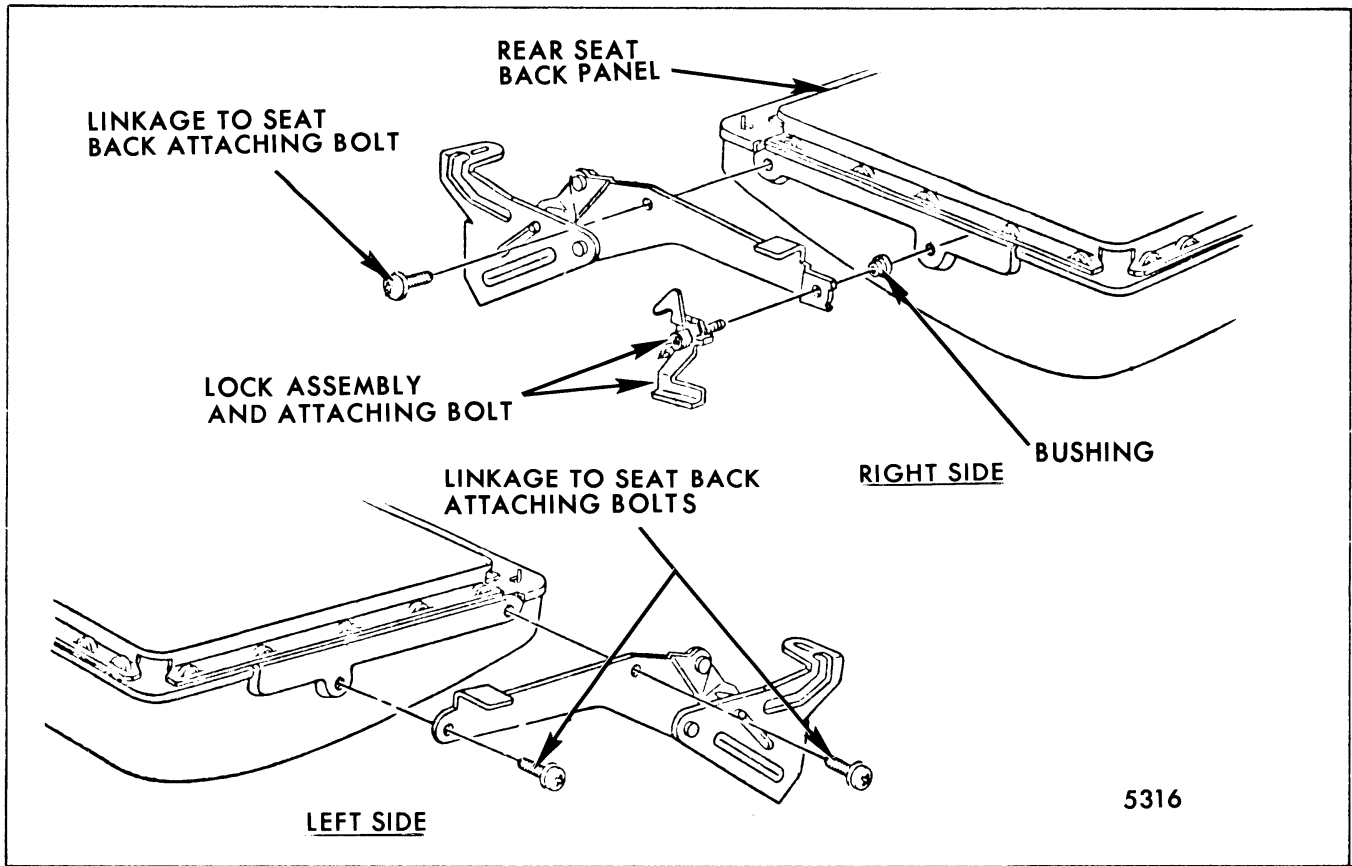

Fig. 9-70-Folding Rear Seat Back Hinge and Linkage
3. Remove linkage and lock assembly to seat back attaching screws (Fig. 9-70).
2. Remove seat back linkage to seat back frame and lock assembly attaching bolts (Fig. 9-70) and remove linkage.
2. Remove lock assembly (includes attaching bolt, lock spring, latch, handle and bushing) (Fig. 9-70).